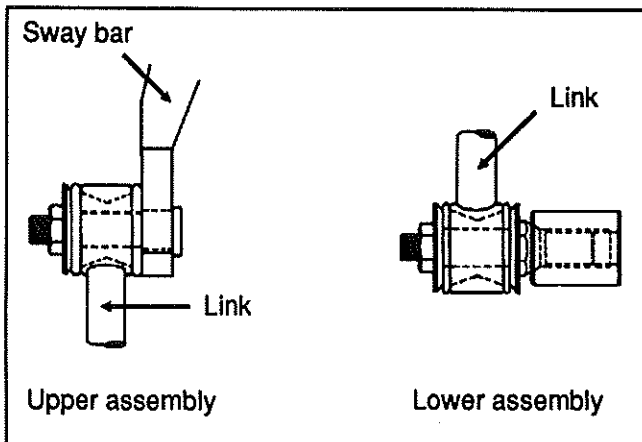

FIG. 22 - Sway bar link Installation
3. With the vehicle at normal ride height, (refer to heading "Suspension height adjustment" later in this section for details), replace the washer on the lower sway bar link stud, then install the links on each side (see fig. 22).